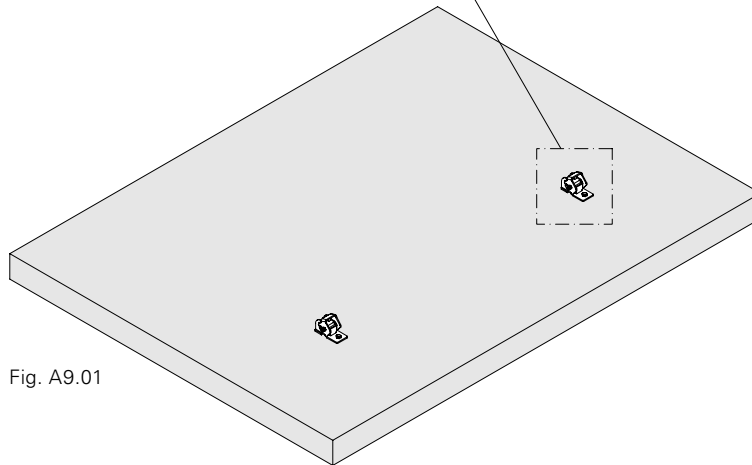

Fig. A9.01
Fix Quick Connector Head (50) with suitable fastening means, e.g. screw-in sleeves and bolts or reliable pigtail anchors, preferably to horizontally positioned prefabricated components. (Fig. A9.01 + A9.01a)